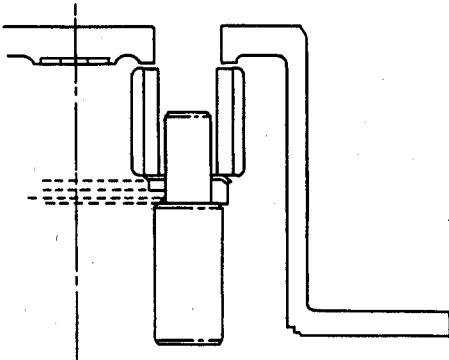

Figure 16.
23. Press new oil seal (16) into hub carrier (18).
24. Assemble hub carrier (18) to steering housing (11). Install outer bearing (17).
25. Install ring gear support (24), locking plate (25). Coat threads of bolts (37) with Loctite #270 and tighten to a torque of 88 lb-ft. (120 Nm). Install ring gear (26) onto ring gear support (24).
26. Replace half shaft thrust washer (28) if worn.
27. Invert hub unit and place on blocks. Using a suitable mandrel or oil pin, locate gears (38) and thrust washes (40) in place, after coating thrust washers with grease (Figure 16).